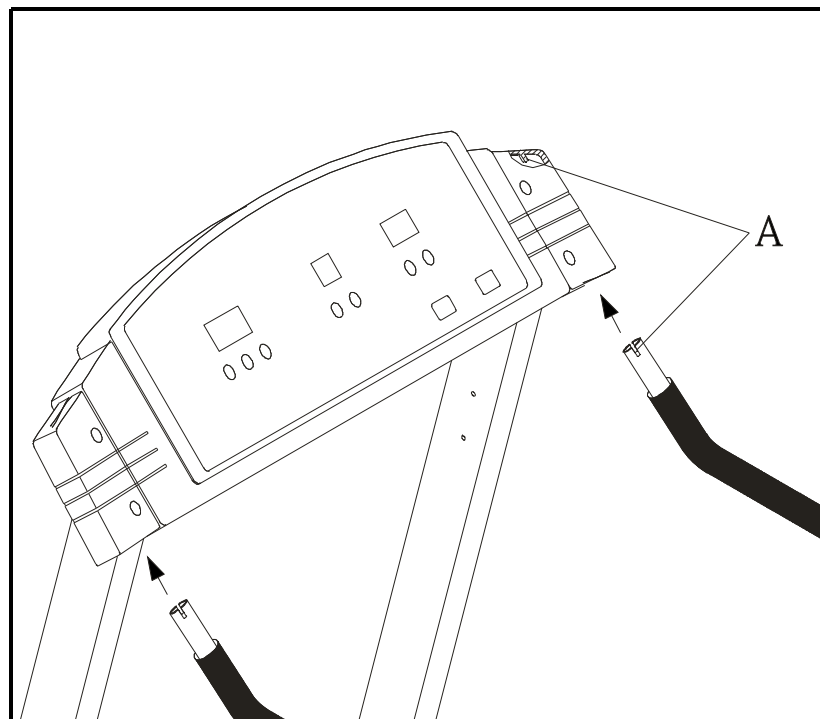

Fig.5
7. Making sure that the notches in the handlebars or handrails fit into the holder channel (see Fig. 5).